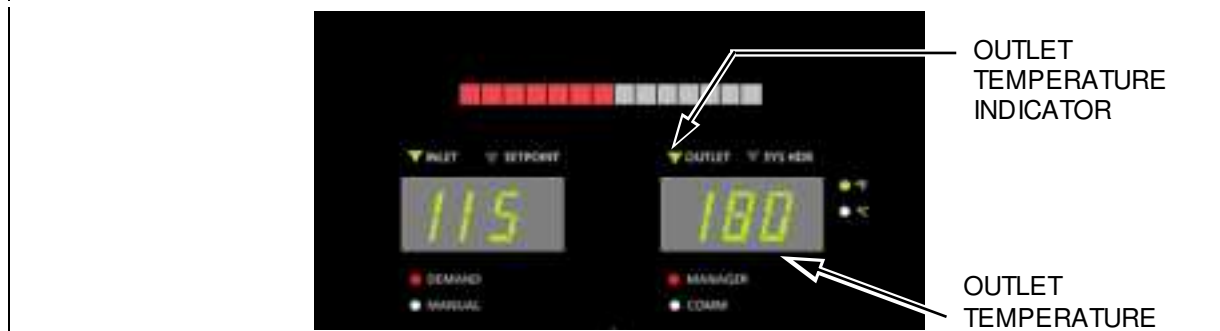

Figure 5-5b: Edge Controller Front Face
- b. Use the **Down** arrow to lower the setting to a temperature **below** the Outlet temperature displayed on the Controller's front face (see Figure 5-5b).